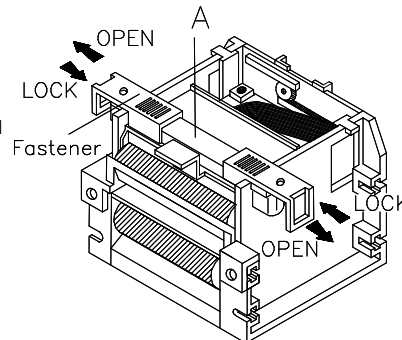

Fig. 3.2.1
2. Press your pointing finger on "A", move out the two plastic fasteners from the retainer, and you can take out the retainer and the print head unit. (see figure 3.2.1)